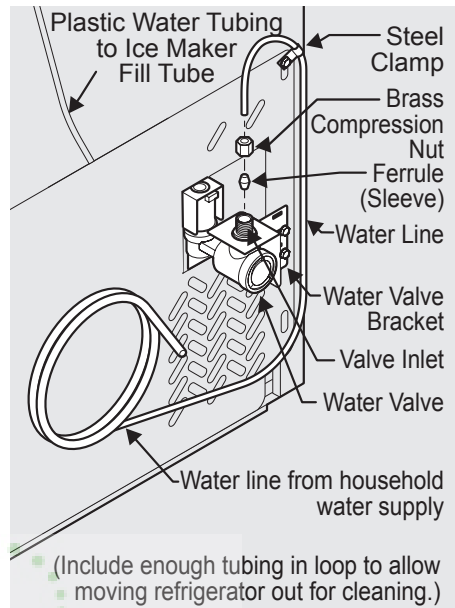

Figure 1
- 4 If you use copper tubing - Slide brass compression nut, then ferrule (sleeve) onto water supply line. Push water supply line into water valve inlet as far as it will go ( $\frac{1}{4}$  inch/6.4 mm). Slide ferrule (sleeve) into valve inlet and finger tighten compression nut onto valve. Tighten another half turn with a wrench; DO NOT over tighten. See Figure 1.
If you use stainless steel tubing - The nut and ferrule are already assembled on the tubing. Slide compression nut onto valve inlet and finger tighten compression nut onto valve. Tighten another half turn with a wrench; DO NOT over tighten. See Figure 1.